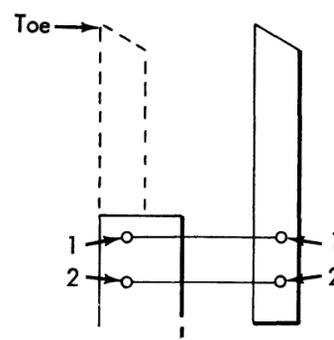

Figure 4-28. Punch and Extension
*Note:* Always insert the retaining pin in identically numbered holes in both the extension and punch (Figure 4-28).